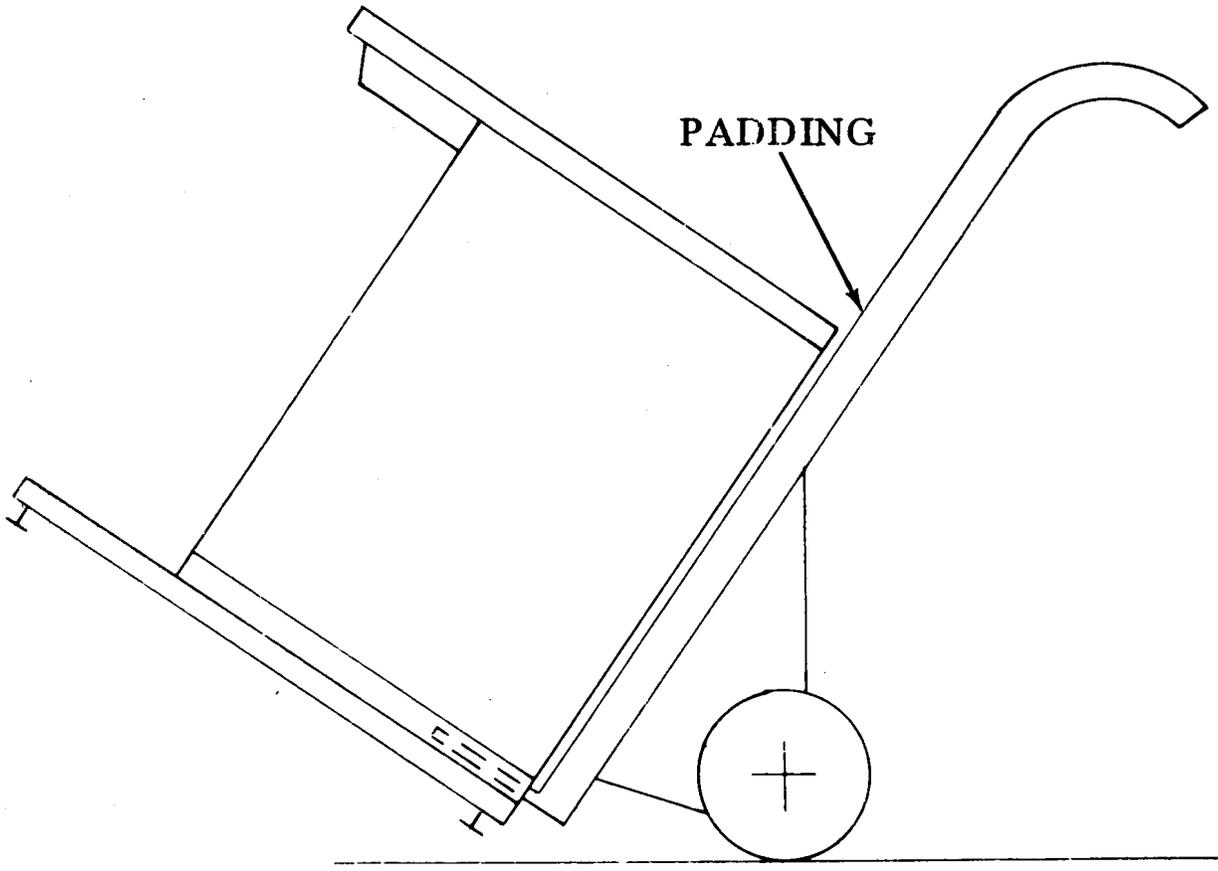

Figure 4 - Fork Truck Transportation
3.03 The buffer may be transported by means of a fork truck with tines extending under the set (Figure 4). It is recommended that padding be used to protect the finish of the set.